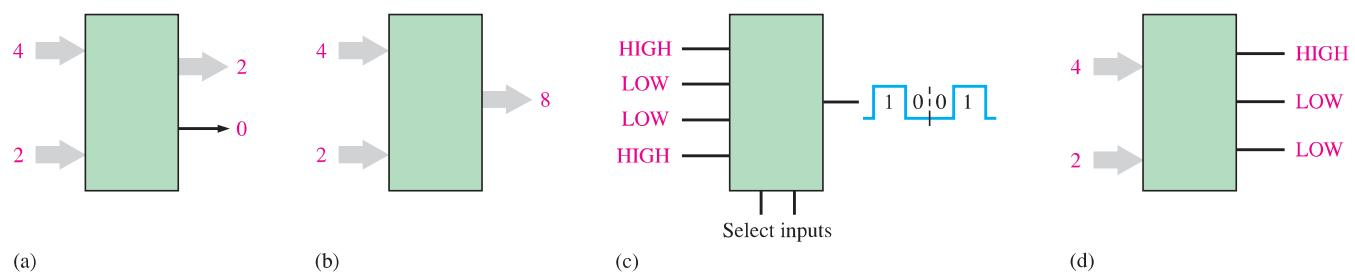

FIGURE 1–63
19. Name the logic function of each block in Figure 1–63 based on your observation of the inputs and outputs.